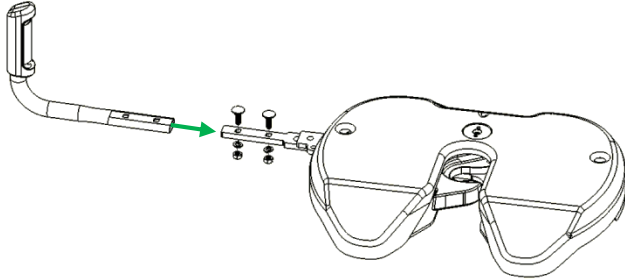

FIG. 2
1. Slide tube over the bar as shown in figure 2, and securely tighten with carriage bolts, lock washers and nuts with M13 wrench. Handle should be snug.